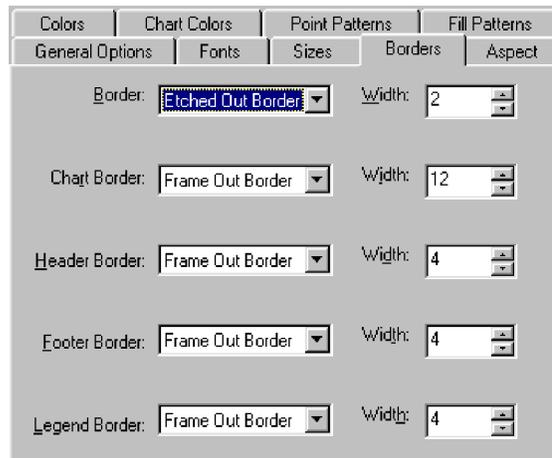

Figure 8.16 *Graph Options dialog box: Borders tab*
- 2 In the **Graph Options** dialog box, click the **Borders** tab (Figure 8.16).